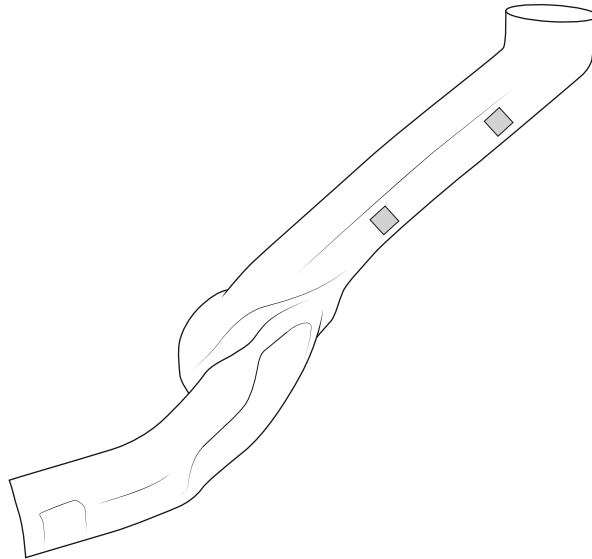

Figure 17
7. Place adhesive foam squares onto the backside of the main body as shown (fig. 17).